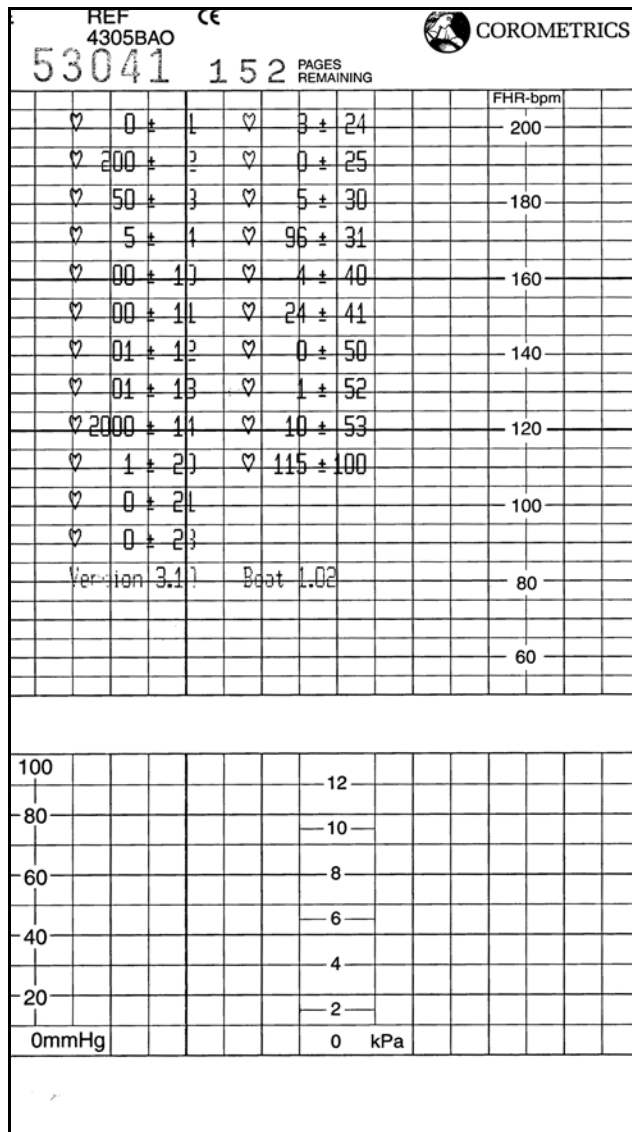

Figure 4-13. Configuration Summary Printout
- Press the **Record** button . **Figure 4-13** shows a sample printout.